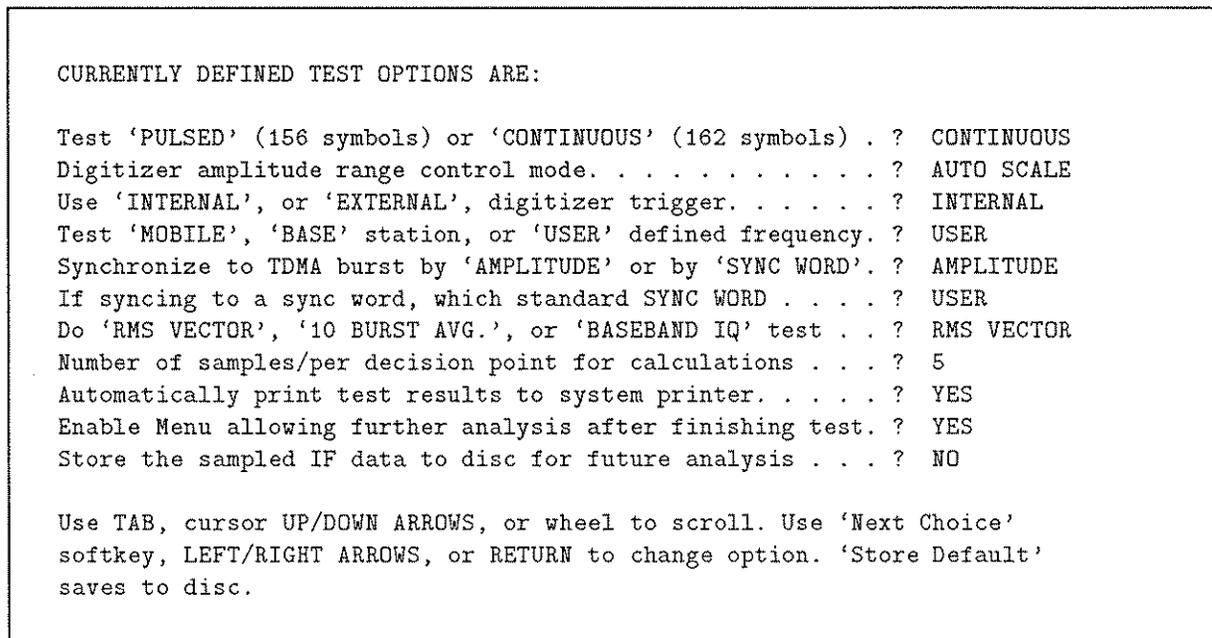

Figure 4-16. Select Options Screen
50. Press the **Select Options** softkey. Compare the screen to figure 4-16 and change any differences to match. Press the **Done** softkey when finished.